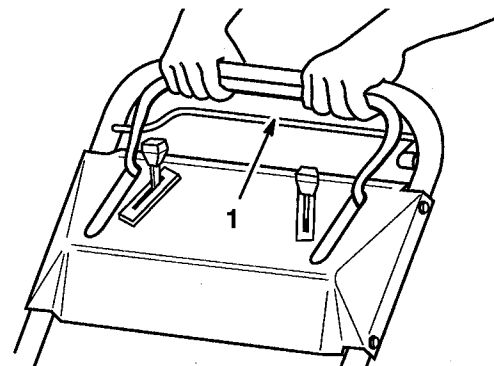

Figure 17
4. To disengage self-propelled drive, release self-propelled bail (Fig. 17).